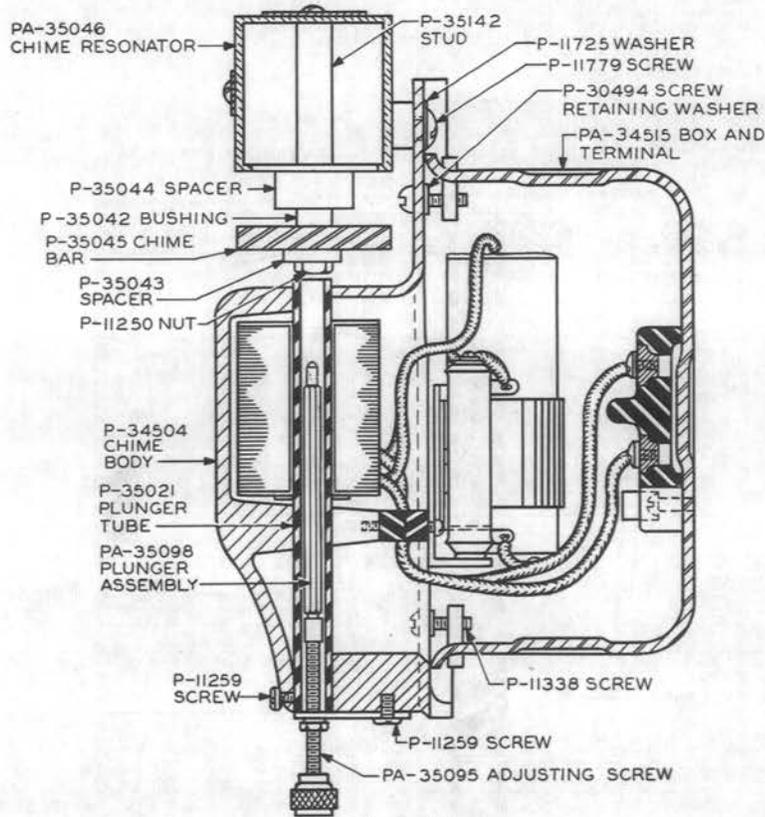
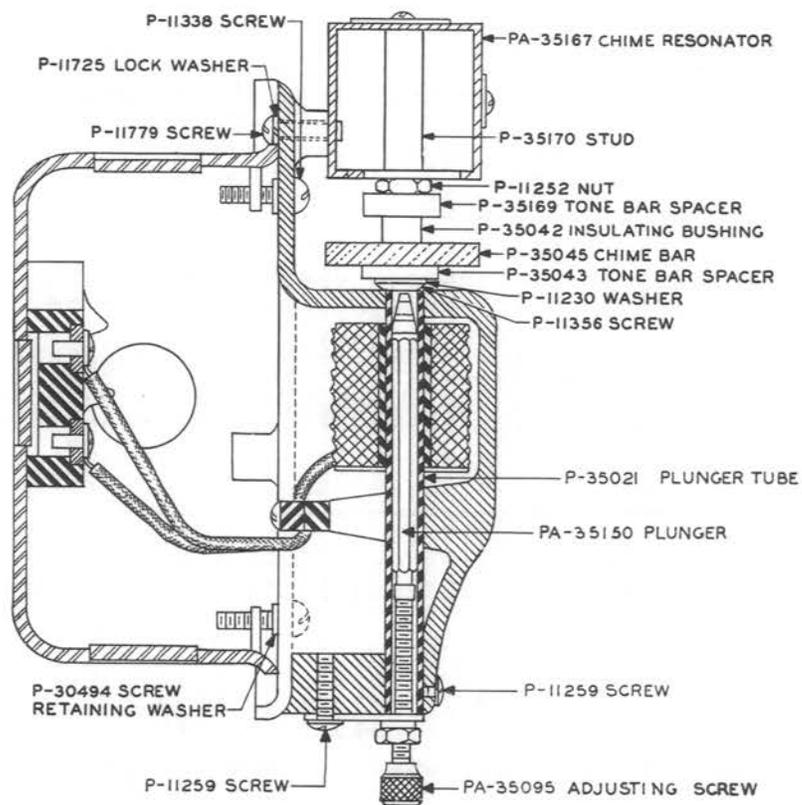

Fig. 3 - KS-5594, L3 and L4 Signals
Fig. 4 - KS-5594, L5, L9, and L10 Signals
**Signals With External Tone Control — KS-5594, L3 and L4 Signals (Fig. 3) and KS-5594, L5, L9, and L10 Signals (Fig. 4)**
3. To revise piece-part data for KS-5594, L5, L6, L7, L8, L9, and L10 signals (Fig. 4, 5, and 6).